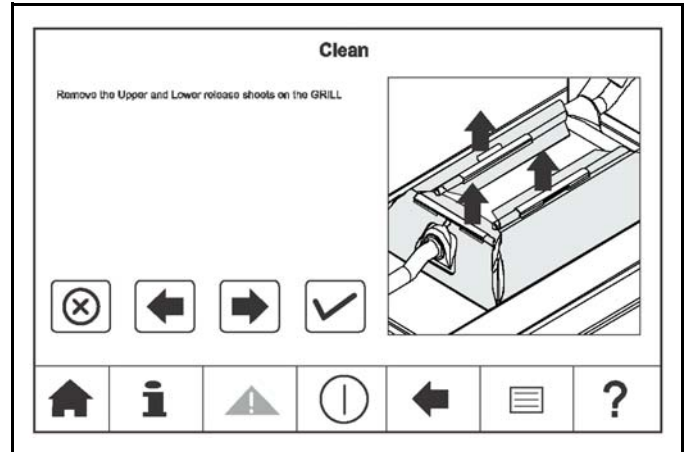

Figure-99
4. Remove the upper and lower release sheets from the grill. See Figure-99.